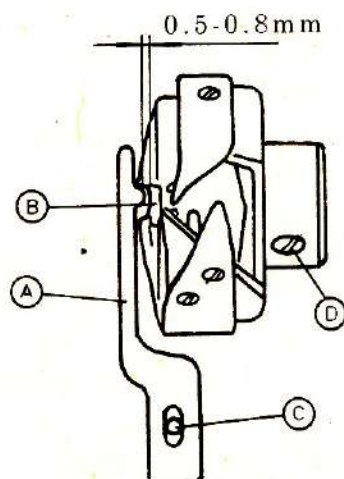

Fig.25
(3) To take off and to put on the hook (fig 25)